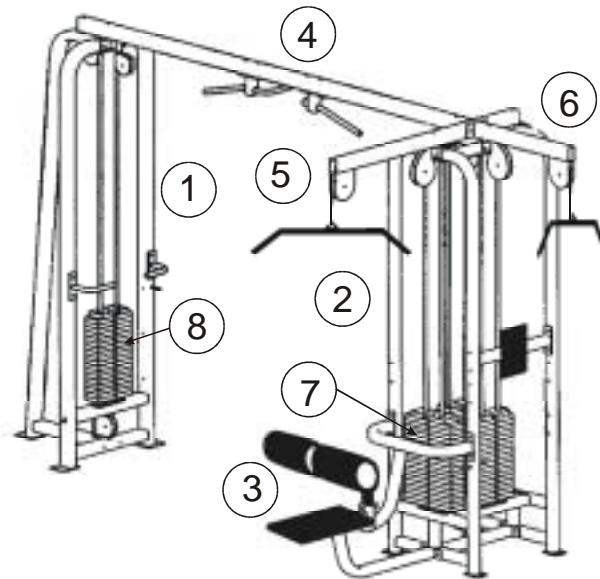
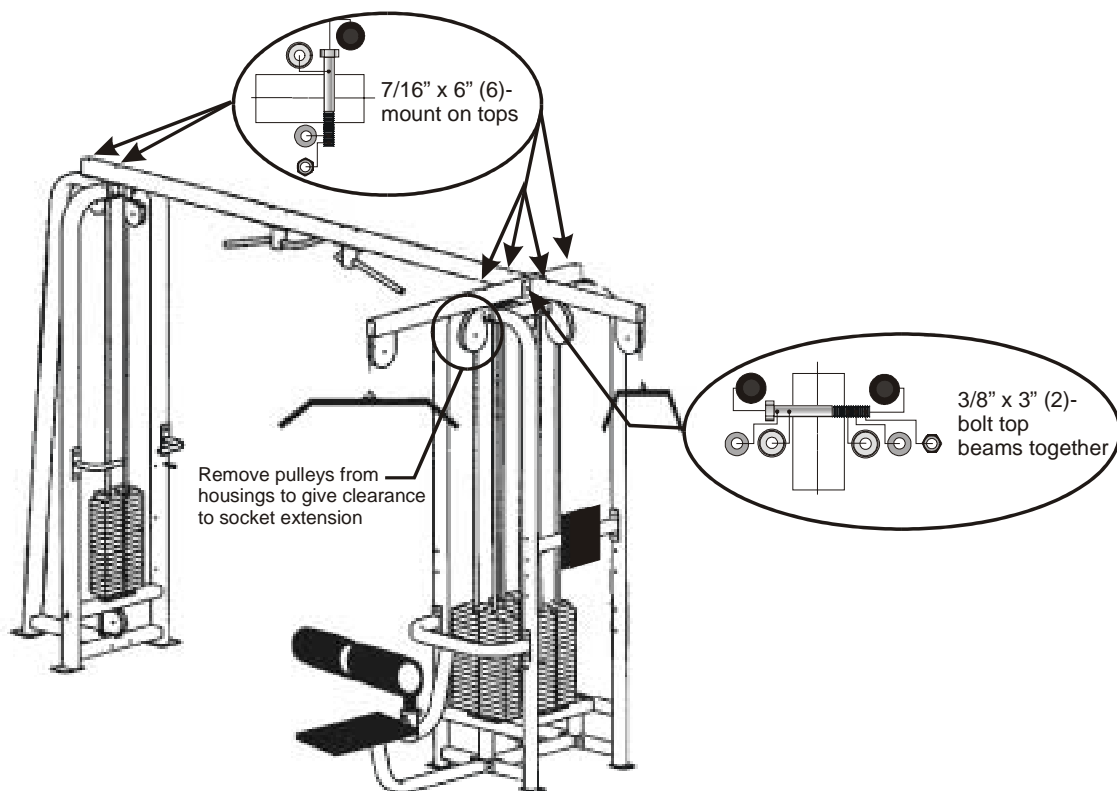

Figure 2. SM41 main components.
Figure 6. Bolt on the connecting beam, lat top, and tricep top.
Figure 2 shows an assembled SM41.
- Bolt on the connecting beam** (part 4 from Figure 2) using a 5/8" socket with extension and combination wrench, to the cells using two of the large 7/16" x 6" bolts, 7/16" washers, and 7/16" nuts, end cap washers and end caps. Figure 6 shows the connected cells.
The part shown in Hardware Figure 2 is the 9/16" cable jam nut that's used to secure the cables to the weight stacks.
Hardware Figure 2. Cable jam nut.
Hardware Figure 6. Weight stack rubber bumpers.